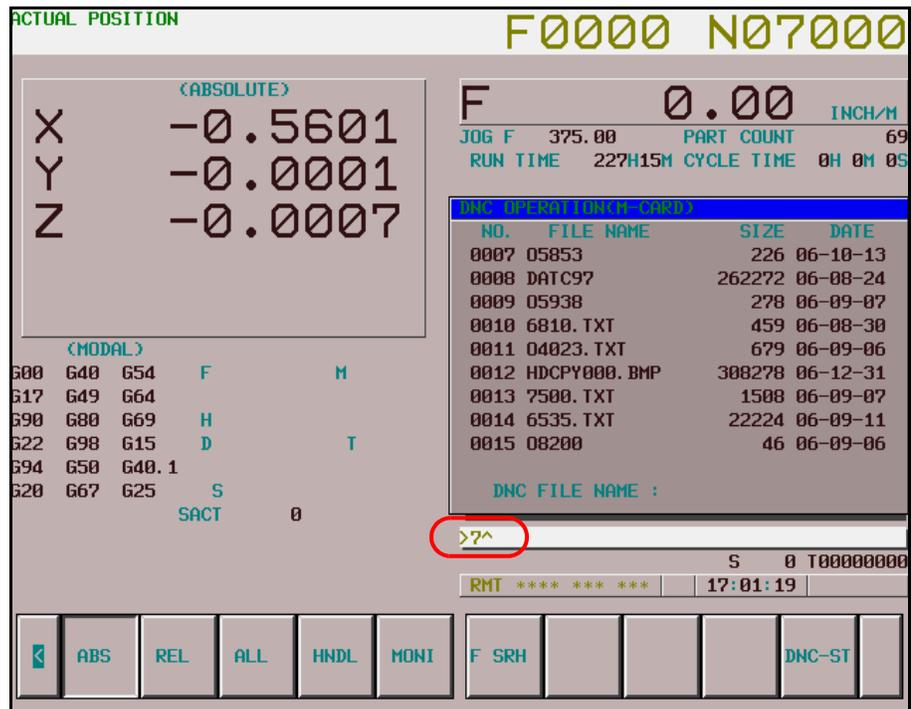

Figure 3-7: File No. to be executed
- Press the [DNC-ST] softkey (Figure 3-7:), the file name will be displayed in the right side of DNC FILE NAME: